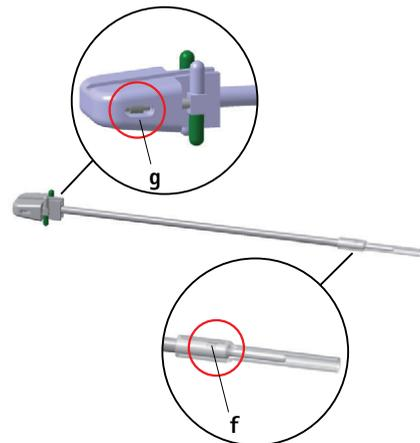

Fig. 4
- ▶ Adjust the safety stop to the central position **g**, see Fig. 4.